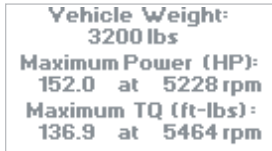

Figure 32: Horsepower / Torque summary
You will see a screen (Figure 32) that gives you a summary of the horsepower and torque measurements for the run.
- The peak horsepower and torque markers correspond to the values seen on the Horsepower/Torque summary screen (Figure 32).